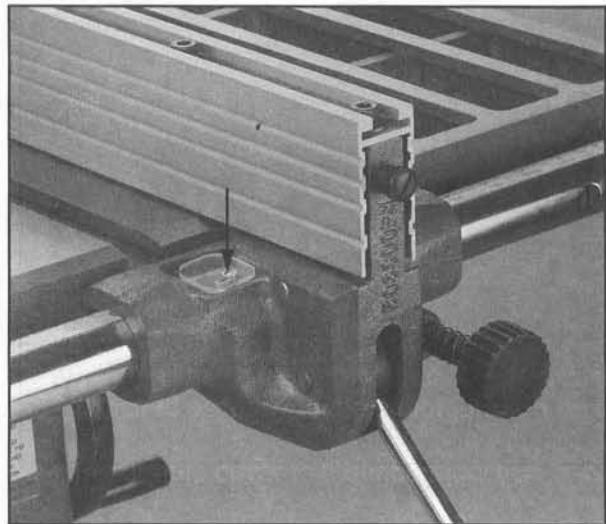

Figure 34. Pointer.
6. Once the fence is adjusted, check the pointer and adjust if necessary. **Figure 34.**